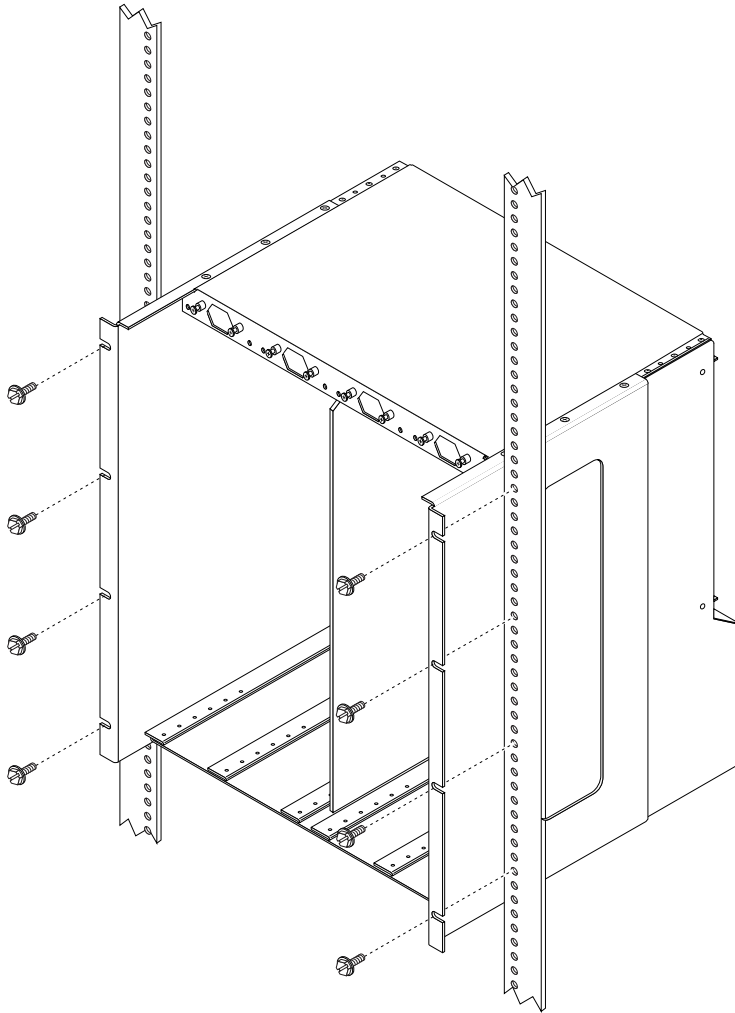

FIGURE 3-9 Mounting the Netra ct Chassis in a Rack
1. Raise the Netra ct chassis to the appropriate height in the rack and align the mounting holes on the sides of the chassis with the mounting holes in the rack rails (FIGURE 3-9).